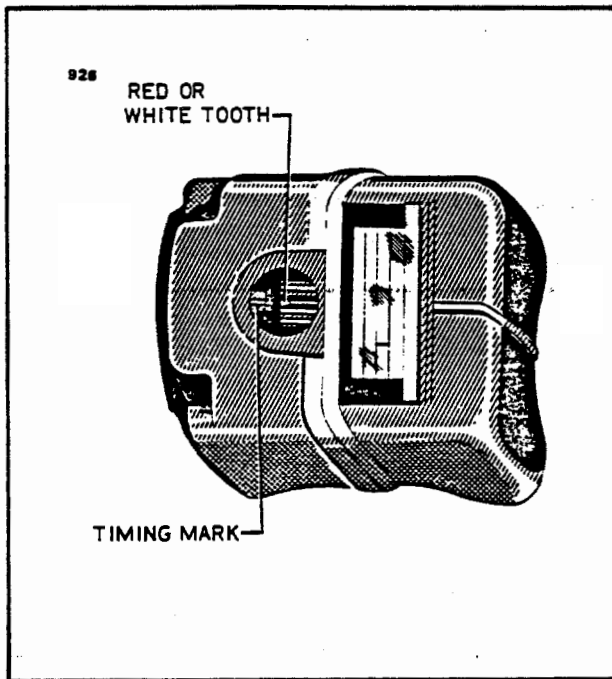
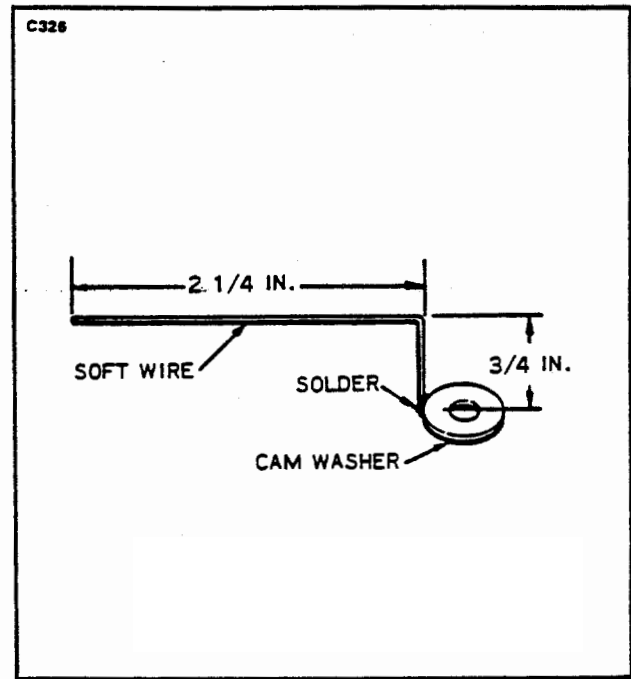

Figure 8-17. Magneto Timing Marks
Figure 8-18. Timing Pointer
- With timing plate and pointer attached (Refer to Figure 8-18.) and pointer set at zero, rotate coupling from neutral in a left hand direction 10 degrees. Appearing through timing hole, ascertain if the white or red tooth aligns with the white line of the distributor block. (Refer to Figure 8-17.) alignment may not vary over ± 4 degrees.
A timing kit, including timing plate, etc. may be purchased through the engine or magneto manufacturer. A pointer may be formed as shown in Figure 8-18.